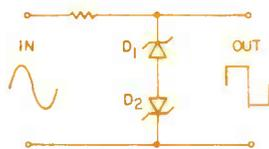

Fig. 5. A symmetrical two-Zener wave shaper.
This imperfection is of no consequence in many applications, but Fig. 5 shows how two Zeners can be connected to produce a symmetrical output waveform. Note that the diodes are connected in series, back-to-back. Thus, when a positive signal is applied to the cathode of the top diode, it will conduct in the reverse direction when its Zener voltage is reached, and will be conducting in series with the forward conduction path of the second Zener. The total voltage drop will be equal to the Zener voltage of the top diode plus the forward conduction voltage drop of the bottom diode. When the input signal reverses its polarity, conduction in the opposite direction will take place, but only after the bottom diode reaches its Zener voltage. The peak-to-peak voltage of the output signal will be equal to the sum of the two Zener voltages plus the forward voltage drops of the two Zeners. Thus, if 6.2 volt Zeners were used in this circuit the output would be 13.8 volts peak-to-peak. Since conduction will take place only when the Zener voltage is reached in either direction, the output waveform will be symmetrical.
3. If D_1 in Fig. 5 were to develop an internal short circuit, no output waveform would be produced by the circuit.